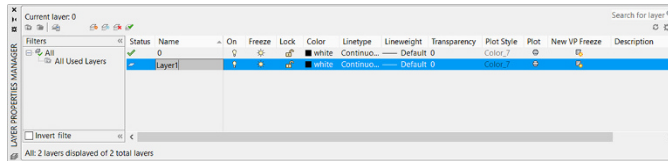

FIGURE 3-4:
The *LAYER* command starts and AutoCAD displays the Layer Properties Manager palette, as shown in Figure 3-4. If you want to move any palette to a different screen location, just move the cursor to the vertical bar on the palette's left edge and then drag the palette to a new location.
It's the leftmost of the group of four buttons that include the green check mark and the red X. AutoCAD adds a new layer to the list and gives it the default name *Layer#* where # is a number. For the first layer, the default name is *Layer1* (see Figure 3-4).
- b. Click the Close button (the X at the upper-left corner of the palette shown in Figure 3-4) to close the Layer Properties Manager palette.